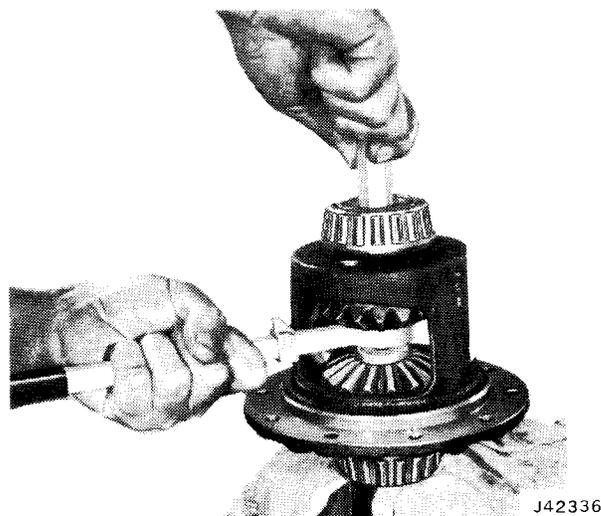

Fig. 10-75 Threading Forcing Screw into Rotating Tool
(8) Position gear rotating tool in upper side gear.
(9) Keep side gear and rotating tool in position by holding with hand. Insert forcing screw through top of case and thread into rotating tool (fig. 10-75).